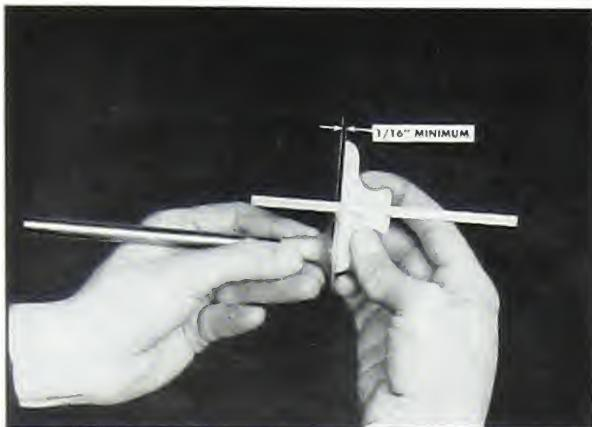

Fig. 3-19. Checking thickness of valve head rim
8. After grinding, check the rim thickness as shown in Fig. 3-19. If the rim is thinner than $1/16$ inch there is danger of burning and cupping.